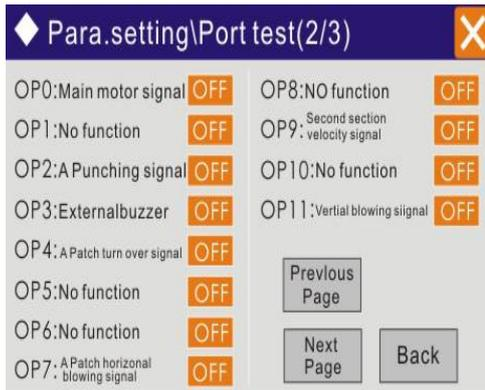

Fig. 15
3. Port test (Fig. 13, Fig. 14, Fig. 15)
The second page of port test is output port test (Fig. 15), all the ports and its relevant setting function is showed in the touch screen. The ON/OFF button after port name is to open/close output port manually. No matter how many ports are open or closed in manual page, all the opening ports are closed automatically after exiting the manual page.